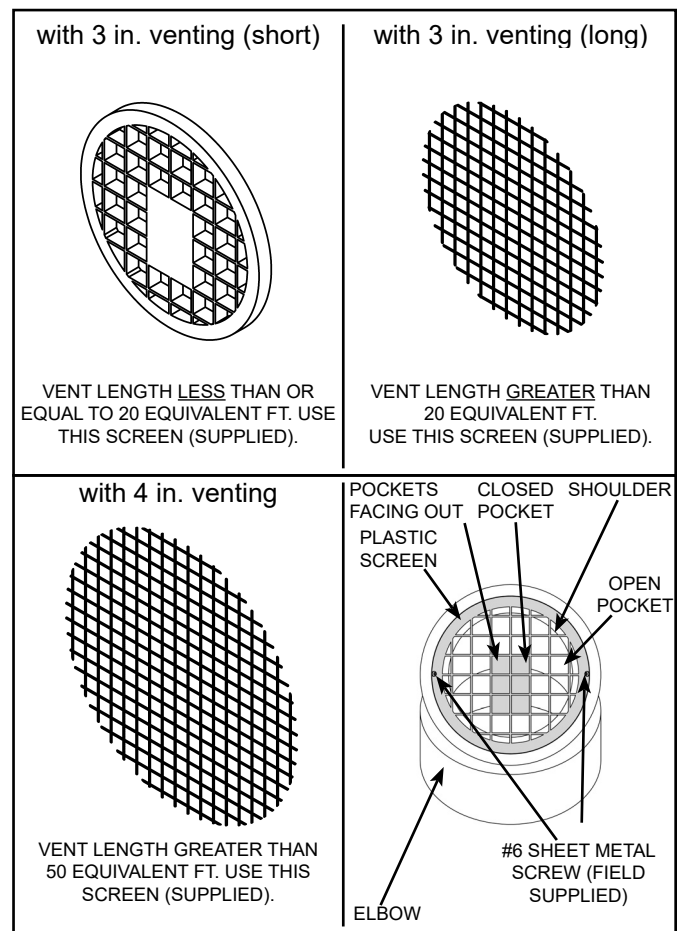

Figure 32.
4. Secure screen in place with screws (field supplied) (see Figure 32).
\* see Figure 32, "Venting terminations and sizing" and "Vent screen installation".